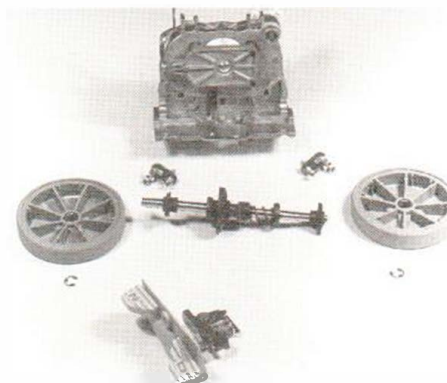

Figure 26. Transmission and Axle Assembly Components
- J. From the left side of axle install the clutch half overload gear with the slotted end over the axle pin, then install the drive bevel gear with teeth facing teeth of clutch half overload gear. Install bearing with rounded side of casing toward drive bevel gear. A bearing with split case and washer must be installed with washer against drive bevel gear. Install axle bushing with longer shoulder toward bearing. Install wheel with flat side toward axle bushing, then install wheel retainer clip. See Figure 26.
- K. From right side of axle install spring against clutch half overload gear, then bearing with rounded side of casing toward the spring. A bearing with split casing and washer must be installed with washer against spring. Install axle bushing with longest shoulder toward bearing. Install wheel with flat side toward axle bushing, then install wheel retainer clip. *See Figure 26.*